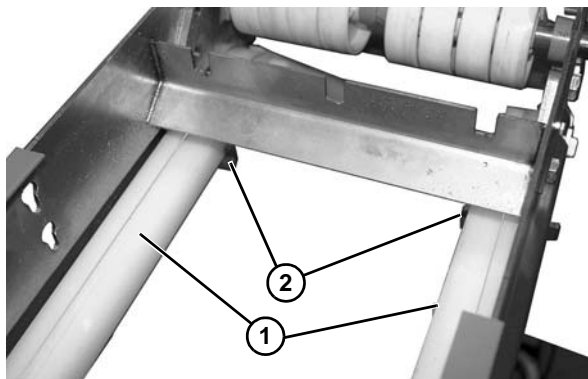

Figure 23
2. Install belt return (**Figure 23**, item 1) onto mounting bracket (**Figure 23**, item 2).